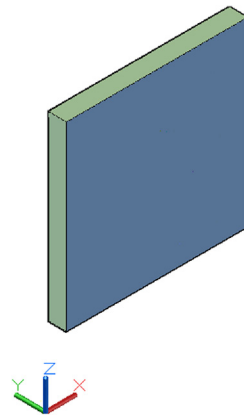

FIGURE 22.2
Step 5. Here, you can enter any numerical value, but let us stay with 90° for now. Type in 90 and press Enter. The plate rotates 90° around the X axis and stands on its end, as in Figure 22.2.
In the same exact manner, practice rotating the plate around the other axes. From where it is right now in Figure 22.2, a rotation around the Z axis makes it face the lower left side of the page. A rotation around the X axis makes it lay down flat again, and a rotation around the Y axis produces no visible results, aside from a possible shift in position, as the plate is a perfect 10" × 10" square.